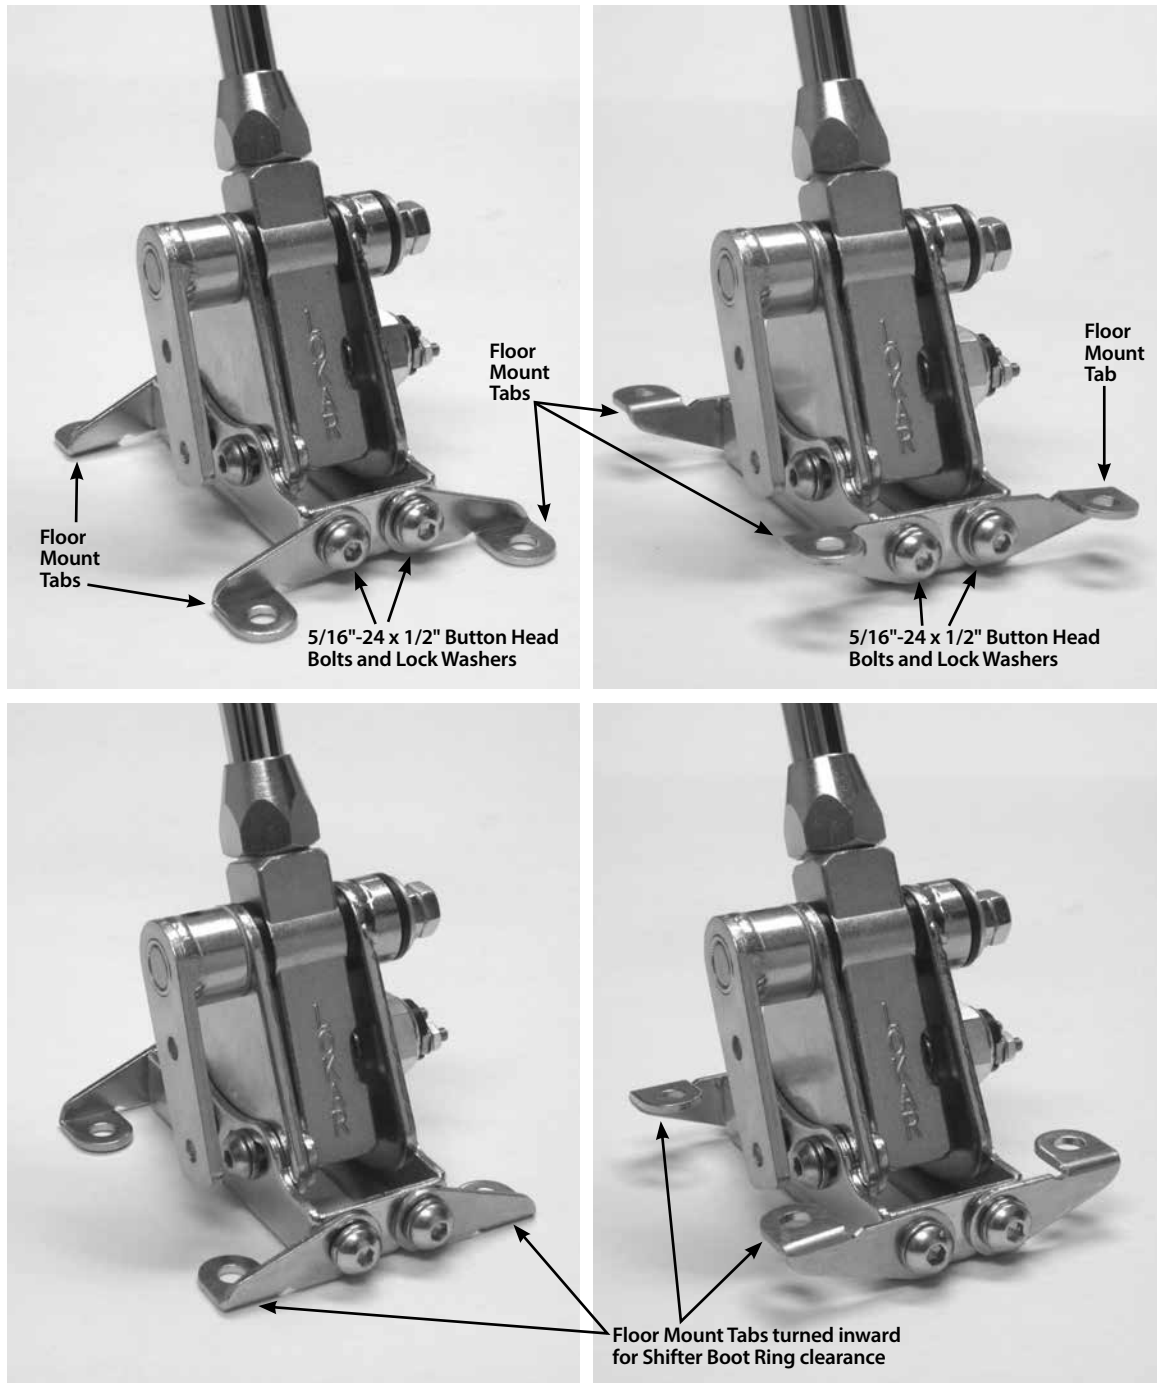

Fig. 4
Step 3: There are two pairs of floor mount tabs in the Shifter Kit. Which pair goes where will depend on if you are mounting the Shifter above or below the floor. See Fig. 4 to determine how the floor mount tabs need to be positioned for your particular application.
Attach the floor mount tabs to the floor mount mounting bracket as shown in Fig. 4 with the 5/16"-24 x 1/2" button head bolts and lock washers. Leave the bolts loose enough so that adjustments can be made later during the installation.